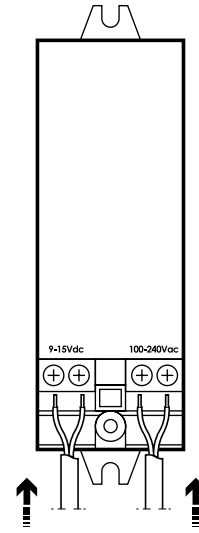

FIG. 2
4. Place the luminaire back into the installation space (FIG 2/3).